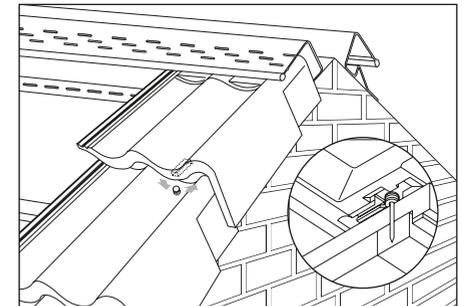

Fig. 7 – Engage nylon spacer with nail into channel of verge unit
- 16 Push cloak verge tile upwards and fit into dry ridge batten section (Fig. 7).